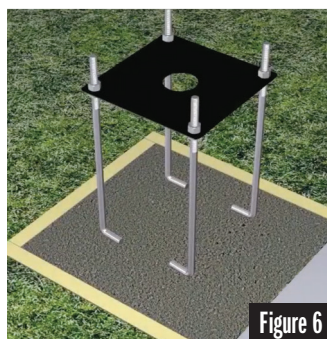

Figure 6
- Set the bolt plate in the center of the 2' x 2' area parallel to the playing surface. See Figure 6.
- -Remove the hardware from the flat end of the Extension Arm (Part B) & discard tubes. See Figure 6.